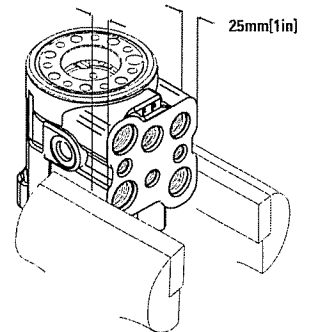

Figure 21
- 16. Clamp housing in vice (figure 21).